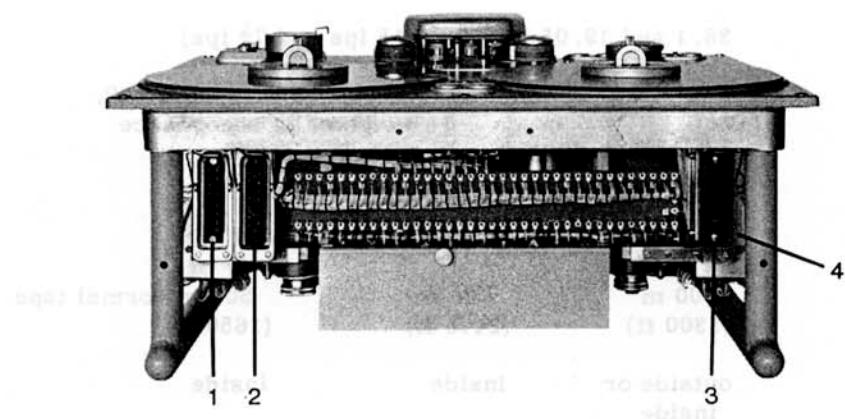

Fig. 1 Connections to the tape transport
For setting up, the matching plug with the necessary bridges (see 3.1) is to be inserted into the socket strip (Fig. 1 item 2).
#### 4. 1. Connection terminals (see Fig. 1)